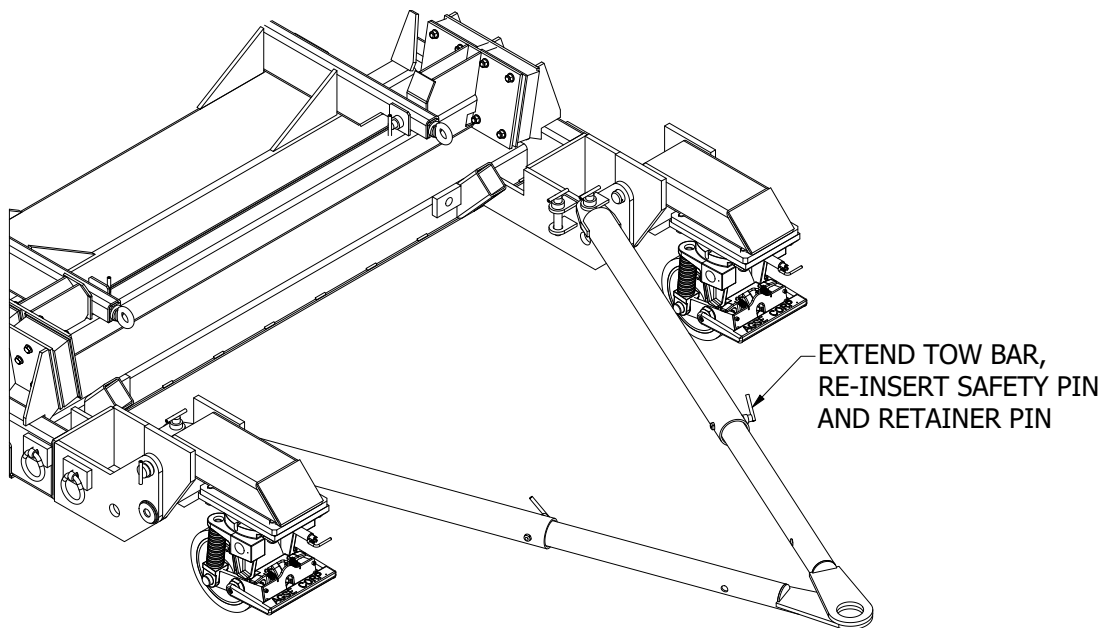

Figure 5.3-2
- 5). Align the pin holes between the outer and inner sections and insert the pin. (Figure 5.3-2)